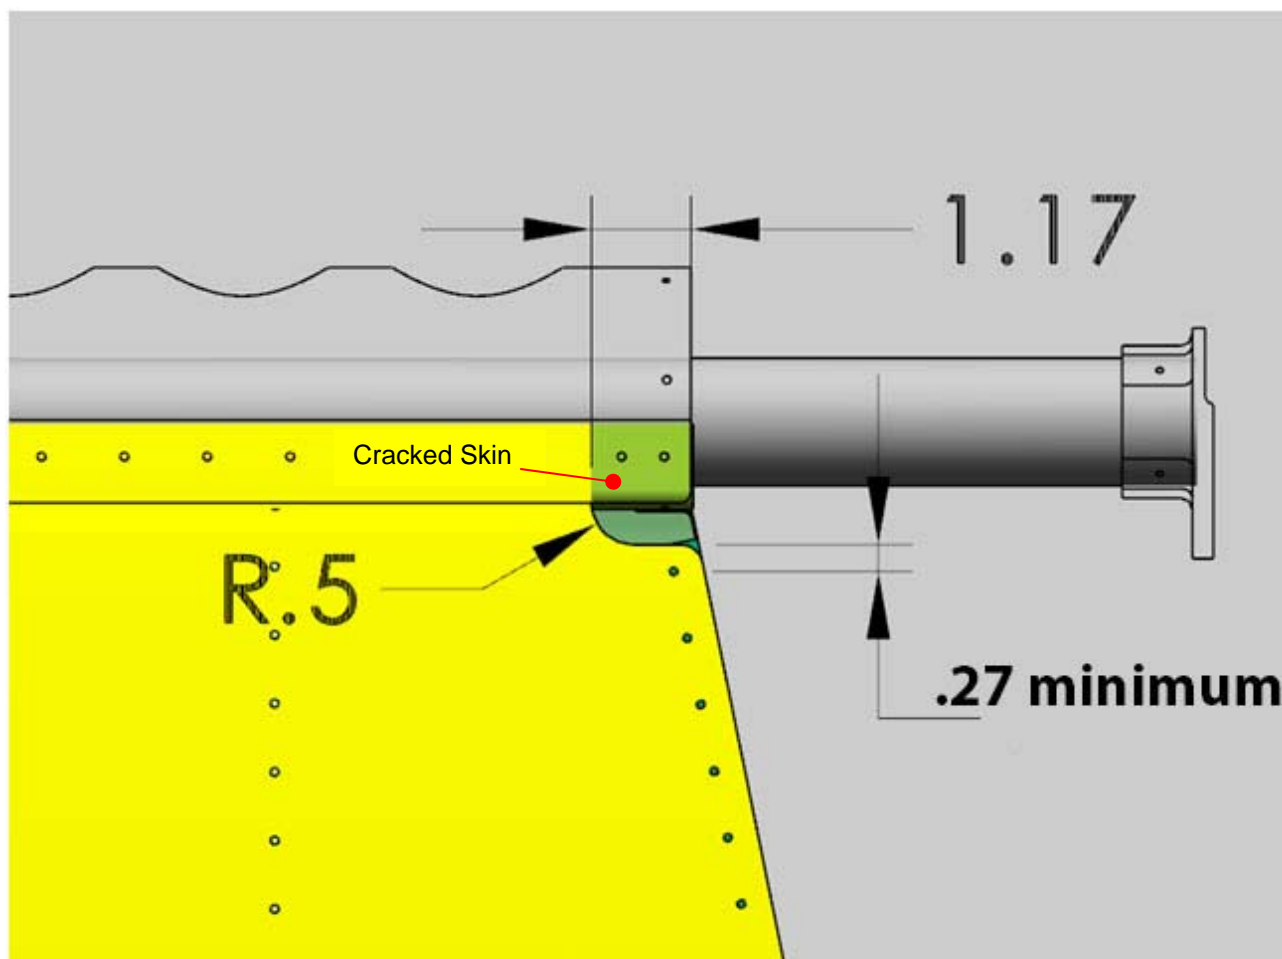

Figure 5-6: Trim Away Cracked Skin
2. Fully remove the cracked skin by trimming away the trailing edge skin to the dimensions shown in **Figure 5-6**. Remove additional fasteners in the leading edge skin as necessary to access the area.
- e. If unable to remove all of the cracked material while maintaining the 0.27 inch minimum and other dimensions shown in **Figure 5-6**, contact Quest Aircraft.